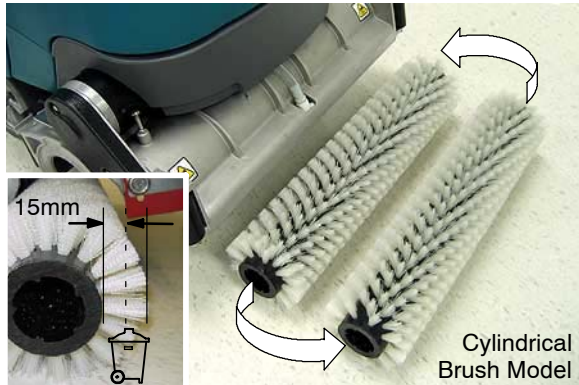

FIG. 63
7. Inspect the cylindrical brushes for wear. Rotate brushes from front-to-rear every 50 hours (Figure 63). Replace when worn to a length of 5/8 in / 15 mm.